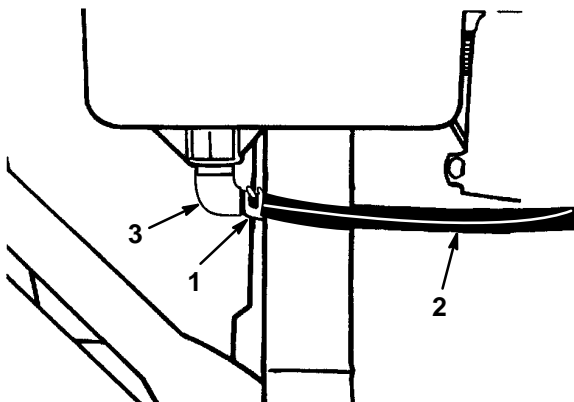

Figure 5
4. Remove red cap from end of fuel line and from end of elbow fitting on gas tank. Slide end of fuel line onto elbow fitting (Fig. 5). Secure fuel line in place with fuel line clamp.